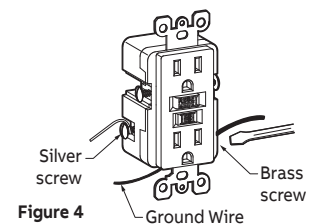

Figure 4
4. Attach the supply wires to the screw terminals on the wiring device (GFCI) by wrapping the wire clockwise around the screw and tightening the screw using a screwdriver. Attach ground wire to the green screw terminal. Attach white supply wire to the silver screw terminal, and the black supply wire to the brass screw terminal (Figure 4).